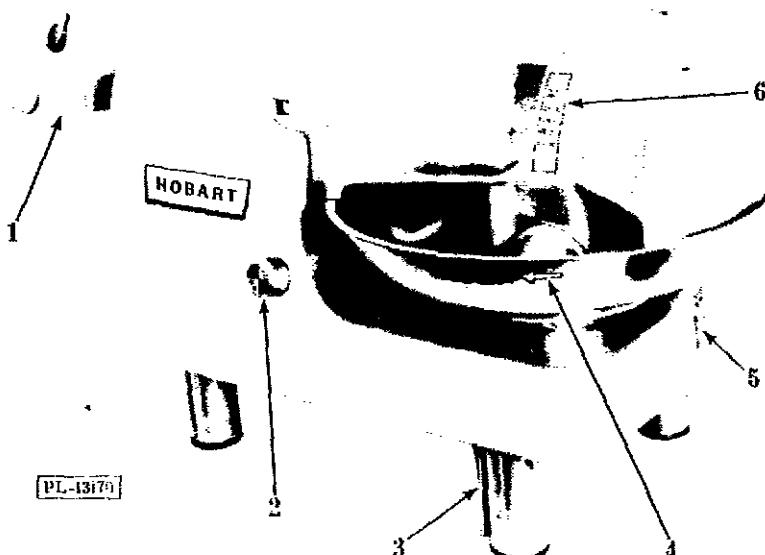
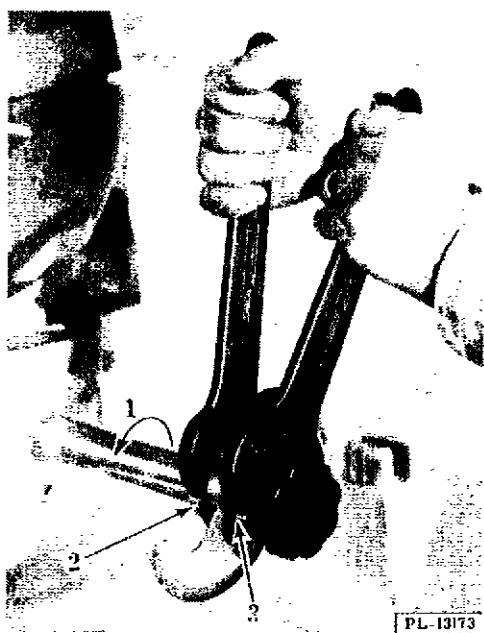

Figure 1. Food Cutter
Figure 4. Knife Assembly Adjustment
A.1 Before making any electrical connections, CHECK THE SPECIFICATIONS ON THE NAME PLATE (5, Fig. 1) TO MAKE SURE THEY AGREE WITH THOSE OF YOUR ELECTRICAL SERVICE. Connect multi-phase motor so bowl will turn clockwise (see arrow) (4, Fig. 1). Knives will then turn downward (viewed from front of the machine), (see arrow on knife shaft (1, Fig. 4)).
B.1 All knives are dangerous. CAUTION: KEEP HANDS FROM UNDER BOWL COVER. A caution plate is attached to the bowl cover (6, Fig. 1) as a reminder.
B.2 The bowl cover is locked down (see section G) when the switch (2, Fig. 1) is pulled "On". It cannot be unlocked until the switch is pushed "Off". If the bowl cover is removed or in a raised position, the switch cannot be
D.1 The food cutter is equipped with an extension foot (3, Fig. 1). CAUTION: When using attachments, always fully extend the extension foot to front position. When attachment is not in use, push foot back underneath machine for convenient storage.
E.2.1 To check clearance or make adjustment, disconnect the power supply (make sure knives are not turning) unlatch and raise bowl cover (1, Fig. 3). Loosen hand knob (2, Fig. 2) a couple of turns (without removing knife unit from machine). Hold a wrench on the flats of sleeve (2, Fig. 4) to keep sleeve from turning and slightly loosen nut (3, Fig. 4) with a second wrench. Carefully tap loosened knives with a block of wood until the proper clearance is reached. Retighten nut, then hand knob.
G.2.1 Push switch (2, Fig. 1) "Off" - releasing interlock. WAIT for knives to stop.
H.1 The attachment drive (1, Fig. 1) will power #12 size Hobart attachments. These include the Chopping End, 9" Vegetable Slicer and Power Dicer. **CAUTION:** When using attachments, always fully extend the extension foot to front position.